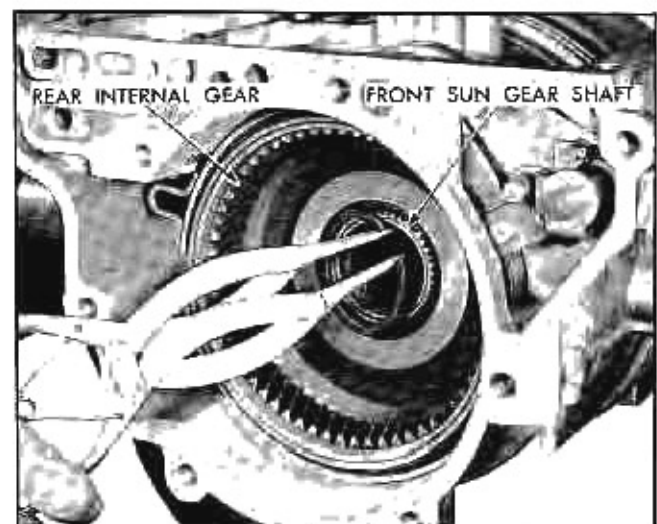

Fig. 112 Installing Front Sun Gear Shaft to Rear Internal Gear Snap Ring
3. Install front sun gear and shaft assembly through case center support aligning splines of sun gear shaft with rear internal gear and cutaway splines with sprag retainer. **CAUTION:** Be sure to hold rear unit internal gear forward during this operation (Fig. 112).